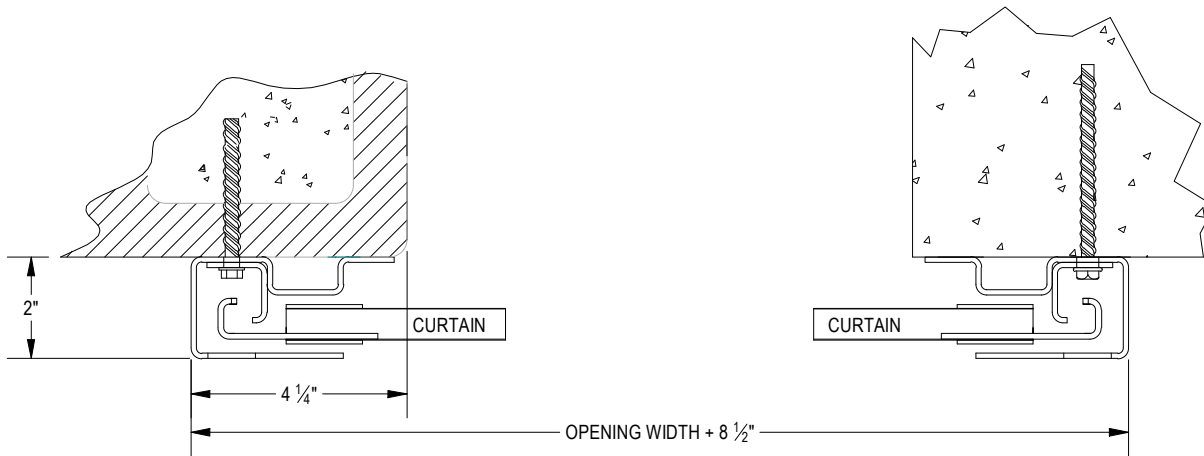

FIGURE 8: CONCRETE/FILLED CMU
- **MASONRY JAMBS:** $\frac{3}{8}$ " X 4" DEWALT SCREW BOLT+ at inside of guide. This mounting option for all model 3100 applications to Masonry & CMU. See Page 9 Figure 8.